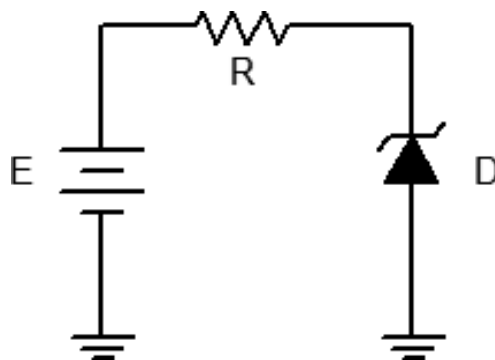

Figure 1
1. Consider the circuit of Figure 1 using  $R = 2.2 \text{ k}\Omega$ . For any positive value of  $E$  the Zener is reverse biased. Until the Zener potential is reached, the diode resistance is effectively infinite and thus no current flows. In this case the voltage across  $R$  is zero due to Ohm's law. Consequently, all of  $E$  should appear across the Zener. Once the source exceeds the Zener voltage, the remainder of  $E$  (i.e.  $E$  minus the Zener potential) drops across  $R$ . Thus, as  $E$  increases, the circulating current increases but the voltage across the zener remains steady.
2. Build the circuit of Figure 1 using  $R = 2.2 \text{ k}\Omega$ . Set  $E$  to 0 volts and measure both the diode's voltage and current and record the results in Table 1. Repeat this process for the remaining source voltages listed.